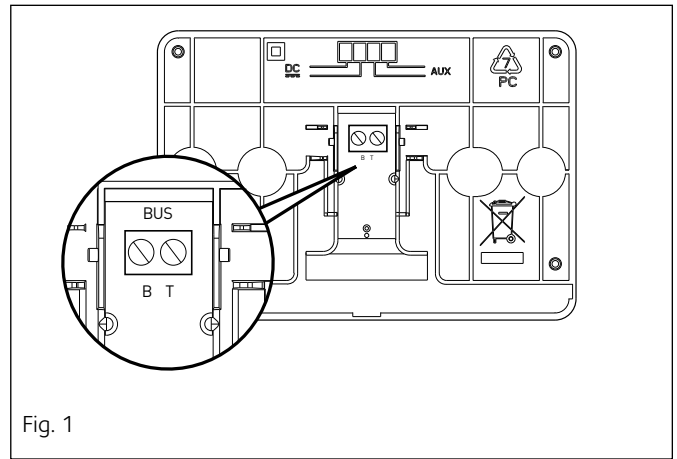

Fig. 1
- connect the pair of wires to the connector (fig. 1);